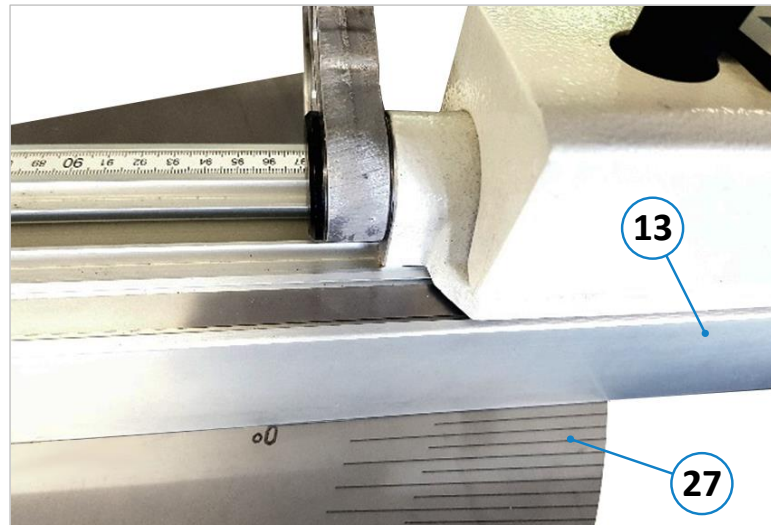

Figure 26: Cross-cut fence at zero position
- The cross-cut fence (13) is thus automatically set to the 0° position (see ⇒ Figure 26).
- Now tighten the locking handwheel (W) and the star grip (G) firmly.
**Warning! Danger of crushing between cross slide (22) and cross-cut fence (13)!**